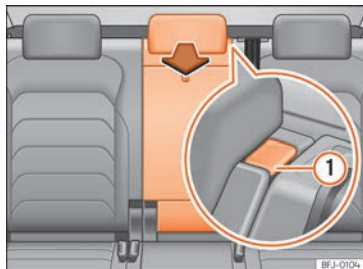

Fig. 134 Backrest of the rear seat: opening the trapdoor for long loads
- Press the unlocking button »» **Fig. 134** ⓘ and fold the tailboard forward »» ⚠.